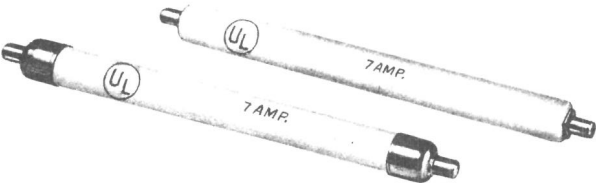

Figure 2 Fuses for Fused Protectors
- 1.03 The fuses are 7 ampere power rated (blow at 10.5 ampere), non-repairable, and are UL approved (Figure 2).